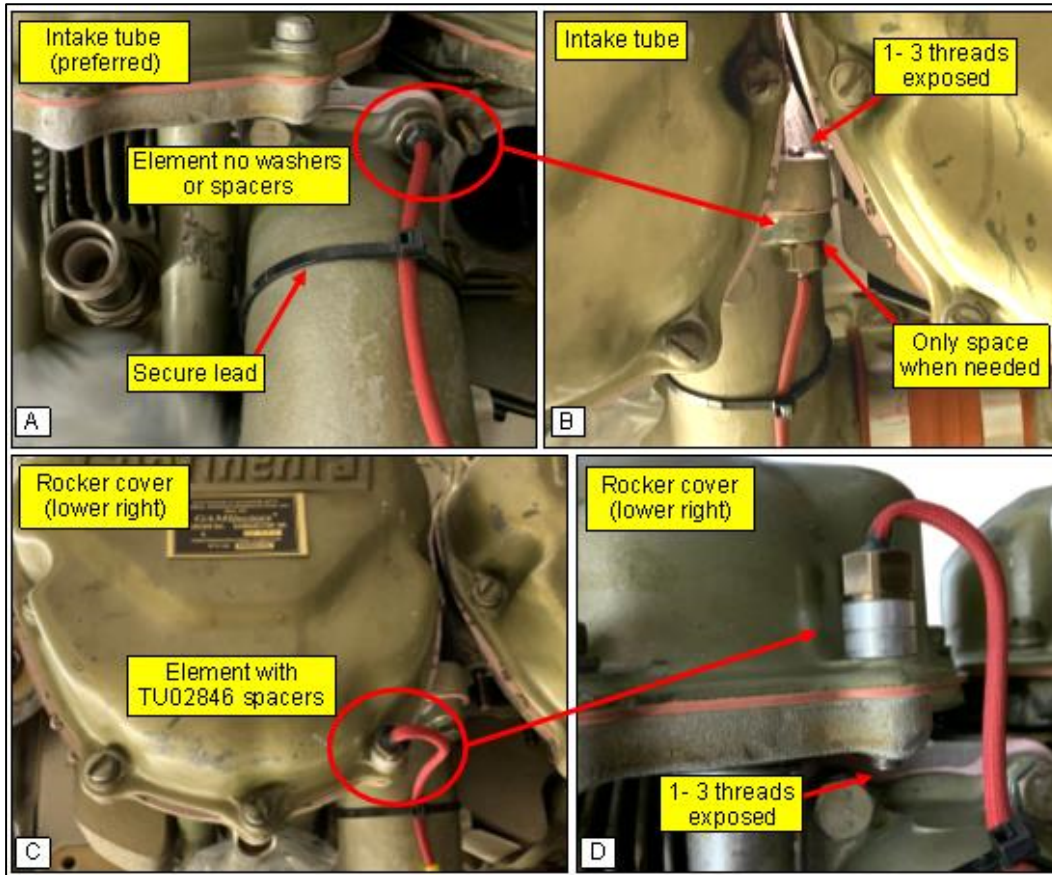

Figure 7.5. Continental large bore angled valve cylinder head w/ D style rocker cover: 470, 520, and 550.
4. Element is designed to allow for installation w/out washer or spacer in locations where spacing is not needed, refer to Figures 7.5. A and B, and 7.7. A and B.